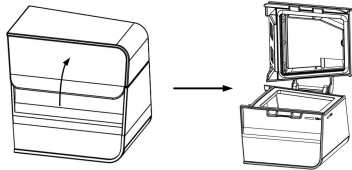

Fig. 19-2
(2) Cleaning the Water Chamber and Transfer Box
a. Open the Water Chamber as shown in Fig. 19-2.